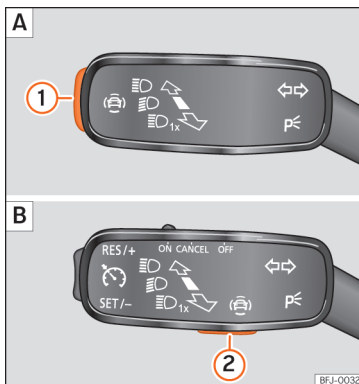

Fig. 115 On the turn light and main beam lever: key for driver assistance systems (depending on the version).
- Press » Fig. 115 **1** or **2** briefly to open the **Driving aids** menu.